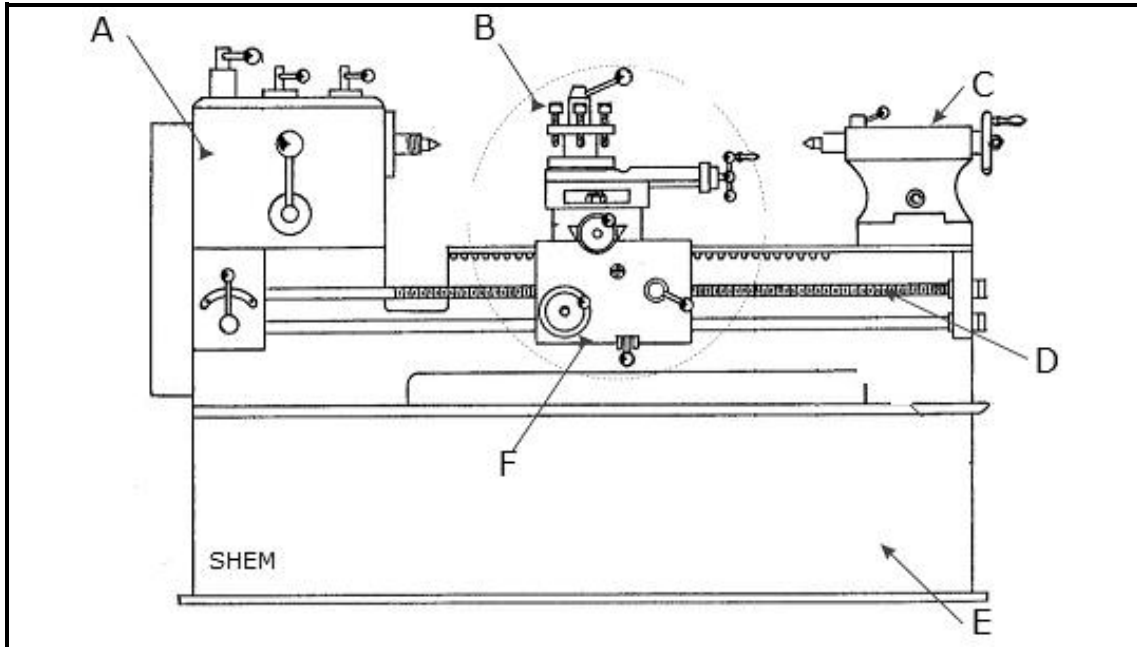

FIGURE 3
3.2 FIGURE 3 shows a centre lathe.